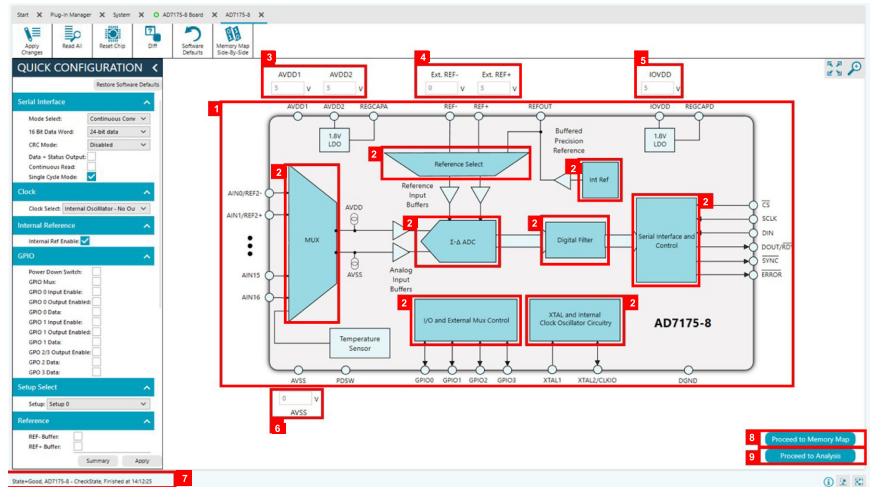

Figure 12. AD7175-8 Functional Block Diagram
- ▶ Functional block diagram: the functional block diagram of the AD7175-8 (Label 1 in Figure 12) shows each of the functional blocks within the AD7175-8. Click a functional block on this diagram to open the configuration pop-up window for that block.
- ▶ Configuration pop-up button: each block has a pop-up window (Label 2 in Figure 12) which opens a different window to configure the relevant block.
- ▶ AVDD1 and AVDD2 (Label 3 in Figure 12)
- ▶ Ext. REF- and Ext. REF+ (Label 4 in Figure 12)
- ▶ IOVDD (Label 5 in Figure 12)
- ▶ AVSS (Label 6 in Figure 12)
- ▶ Status bar: the status bar (Label 7 in Figure 12) displays status updates.